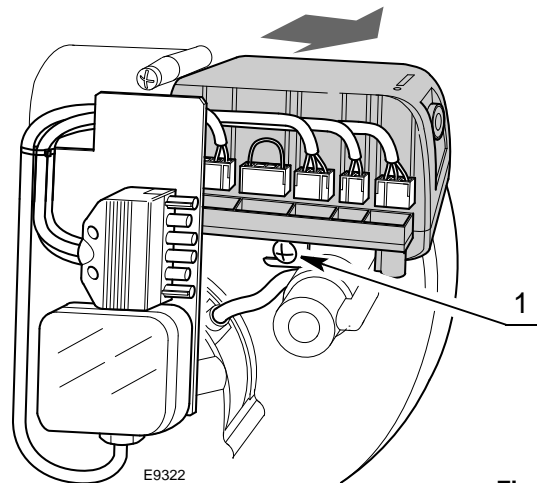

Fig. 15
- disconnect all the connectors connected to it, the 6-pin plug, the high voltage cables, and the earth wire (TB);
- loosen the screw 1)(Fig. 15) and pull the control box in the direction of the arrow.
- tighten screw 1)(Fig. 15) with a tightening torque of  $1 \div 1.2 \text{ Nm}$ ;